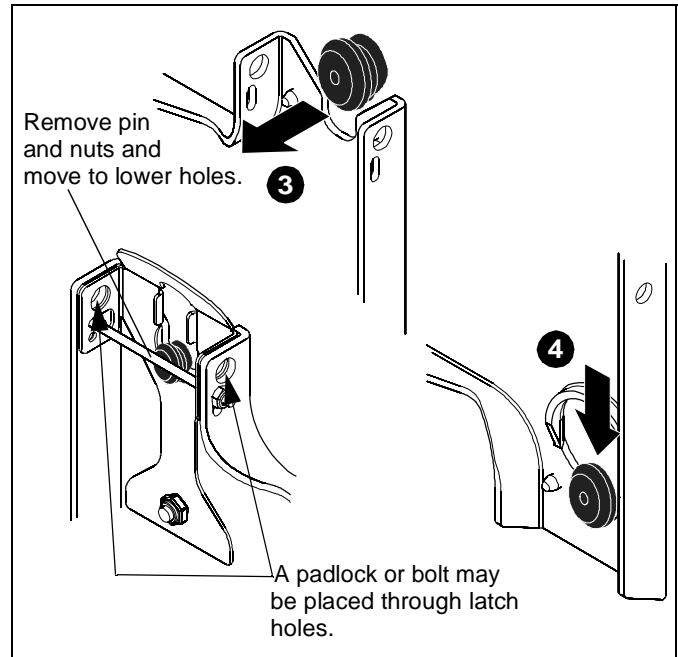
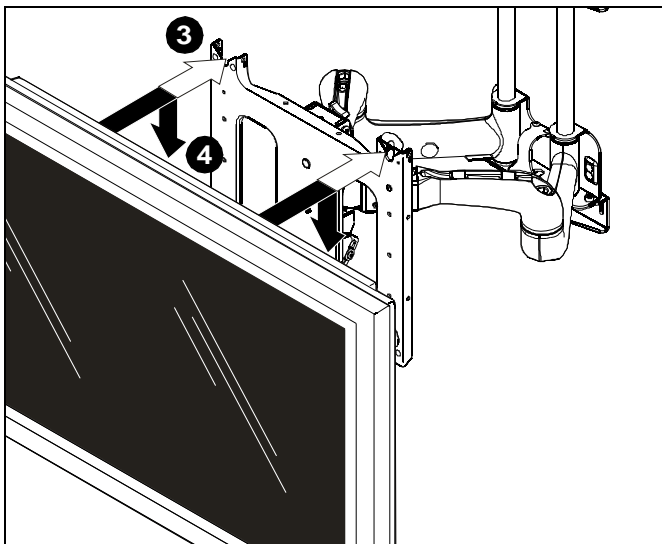

Figure 5
Figure 4
2. Move mount faceplate to extended position by grasping faceplate and pulling outward away from wall. Maximum extension is 22" (558.8mm). (See Figure 4)
3. While supporting both sides of display, align four mounting buttons on display or interface bracket with four mounting holes in faceplate. (See Figure 4)
4. Lower display into place listening for audible "click" to ensure recessed area of mounting buttons are properly seated in lower area of mounting holes and ClickConnect mechanism engages. (See Figure 4) and (See Figure 5)
NOTE: Holes are provided in the faceplate for use with a padlock or similar locking device, if desired. In addition, the pin and nut may be removed from the upper holes and moved to the lower holes for use as a more permanent locking device. (See Figure 5)